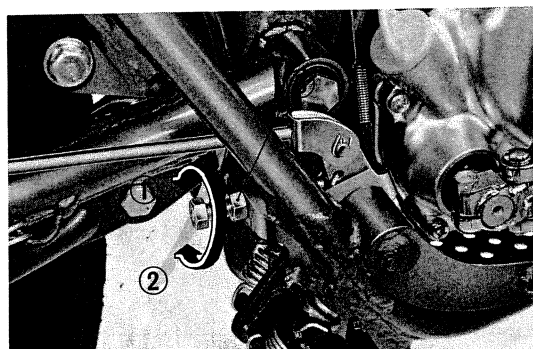

Fig. 17 ① Raise ② Lower ③ Lock nut
- 1) Brake pedal height can be adjusted to suit an individual rider. To adjust, loosen the lock nut and turn the stopper in or out as required. (Fig. 17)